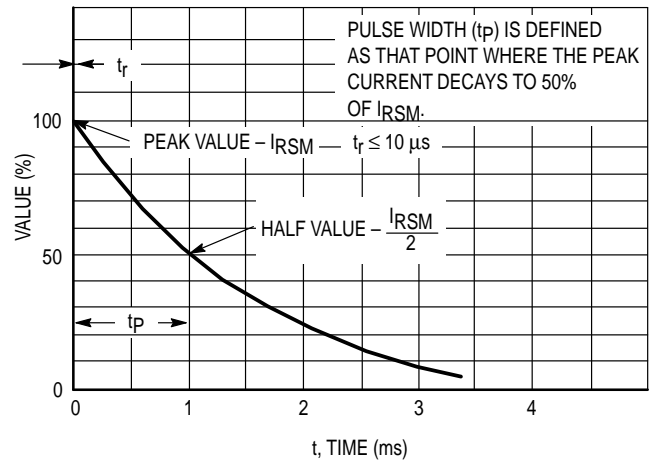

Figure 2. Pulse Waveform
NOTES: 1. Nonrepetitive current pulse per Figure 2 and derated above $T_A = 25^\circ\text{C}$ per Figure 3.
| Device†† | Reverse Stand-Off Voltage V _R Volts (1) | Breakdown Voltage* | | Maximum Clamping Voltage V _C @ I _{pp} Volts | Peak Pulse Current (See Figure 2) I _{pp} † Amps | Maximum Reverse Leakage @ V _R I _R μA | Device Marking |
† Surge current waveform per Figure 2 and derate per Figure 3 of the General Data — 600 Watt at the beginning of this group.
Peak Pulse Current — See Figure 2